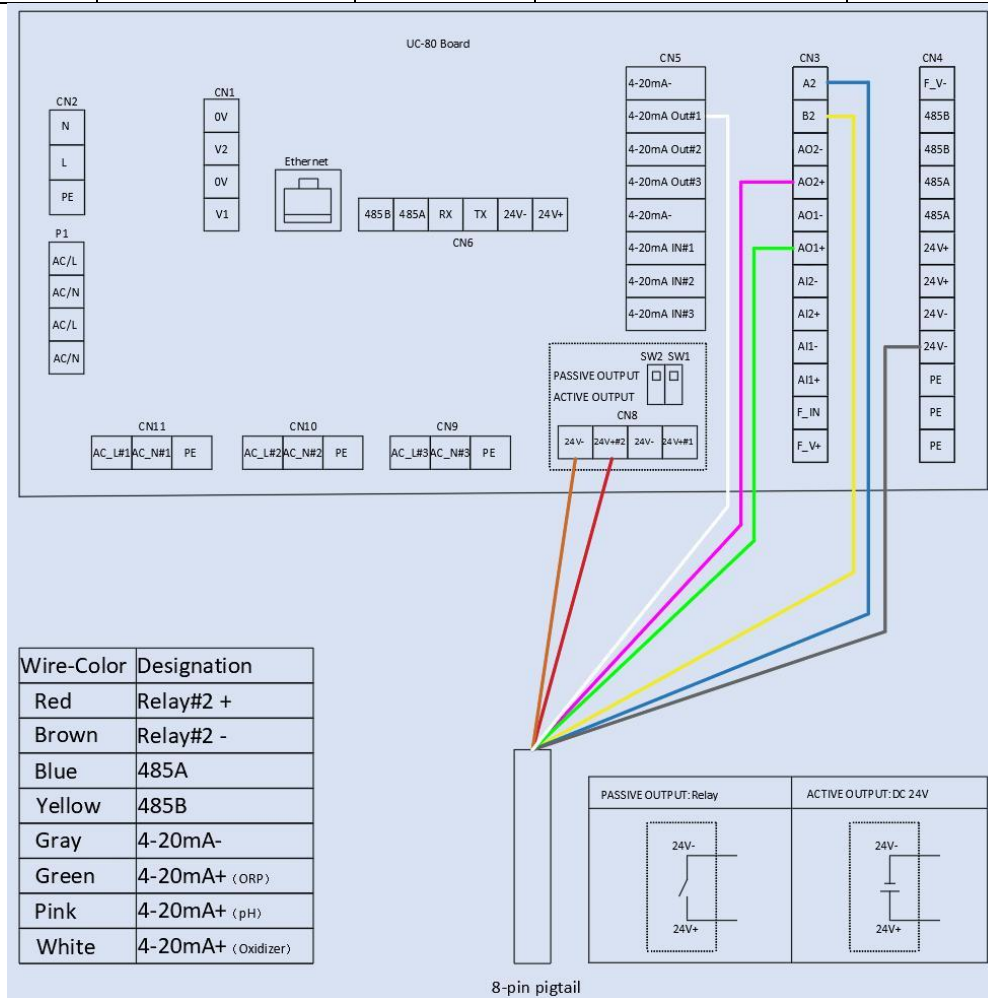

Figure. 6 - Pre-Landed Output Flying Lead Cable Wiring Diagram
The output pigtail offers a female adapter. This pigtail cable is designed to be connected to the loose flying lead cable with male adapter and open wires that is provided with the panel. This 8-pin output enables 3x 4-20mA signal passthrough, 1x RS-485 and 1x Relay (Default is Active Output 24Watt, can be changed to Passive Output) output to pass onto another device. The loose flying lead cable can be rapidly connected directly to the equipment in the field. Wire labeling and color code can be found in the table in the lower left corner of Figure 6 seen below, or rewired to the equipment according to the wiring diagram shown in Figure 6 based on the serial # range provided below of heritage units that DO NOT contain the analog PID control relay.
When Flow Control Mode (C) is selected, a user defined flow rate setpoint must be entered (Figures 6 & 7). The FS-100 will automatically control the regulating valve according to the preset flow rate with an internally calculated PID algorithm.